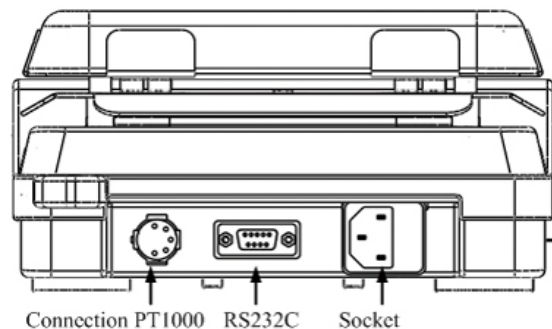

Figure 7
- The functions of the interface lines between laboratory instrument and automation system are selected from the specified signals of the EIA-standard RS232C, corresponding with DIN66020 Part 1. The allotment of the bushing can be taken from Figure 7.